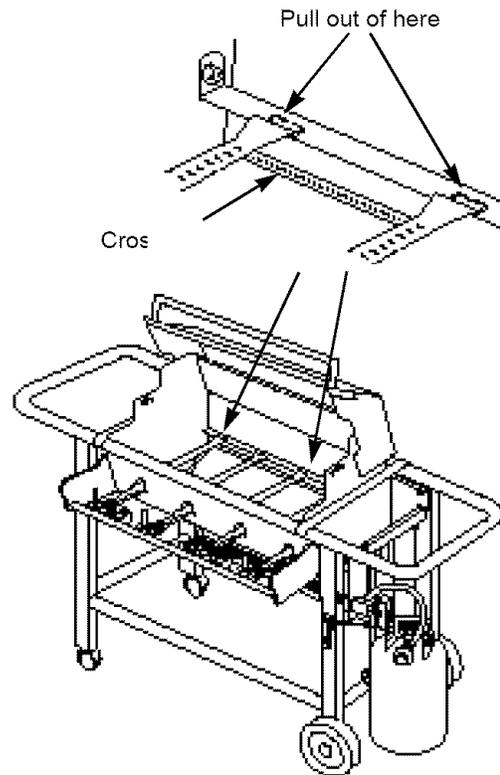

Figure 14
11. Slide the burner assembly from each Heat Zone. The left and right burners are connected by the Crossover tube. Figure 14 (a).